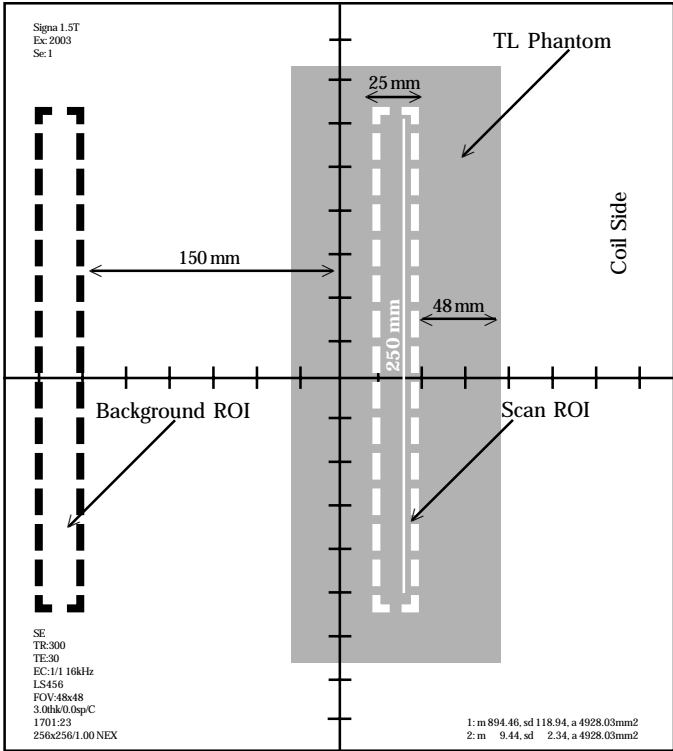

Figure 6: SNR measurement for bottom three coils (coil mode USLS456).
- Select [Scan]. Scan the TL phantom with the bottom three coils (coil mode USLS456) with landmark at the 57cm mark on the scale. Observe the resulting image of the phantom which should be similar to *Figure 6*. Check to see that there are no artifacts in the image. This image will be used for determination of the SNR of the bottom three coils.
- SNR Measurement of Bottom Three Coils -- Repeat previous steps with the phantom image (see *Figure 6*) obtained from the bottom three coils (coil mode USLS456). The measured SNR should be greater than 200 (for 1.5T) and 155 (for 1.0T).